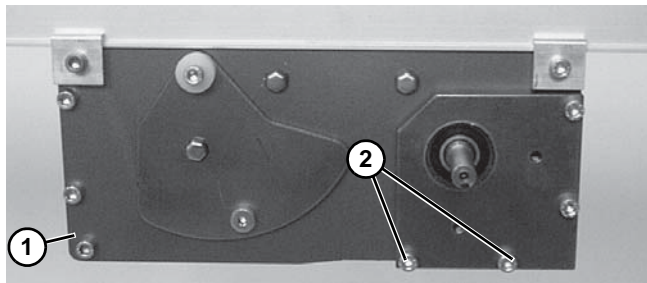

Figure 44
10. Tighten corner screws (**Figure 44, item 1**) on each side of the drive module to 80 in-lb (9 Nm).
12. Re-install tension door screws (**Figure 44, item 2**) on each side of the module. Tighten screws to 80 in-lb (9 Nm).
*With vertically mounted gearmotors, tension door screws (**Figure 44, item 2**) are installed on one side when the gearmotor mounting package is installed.*